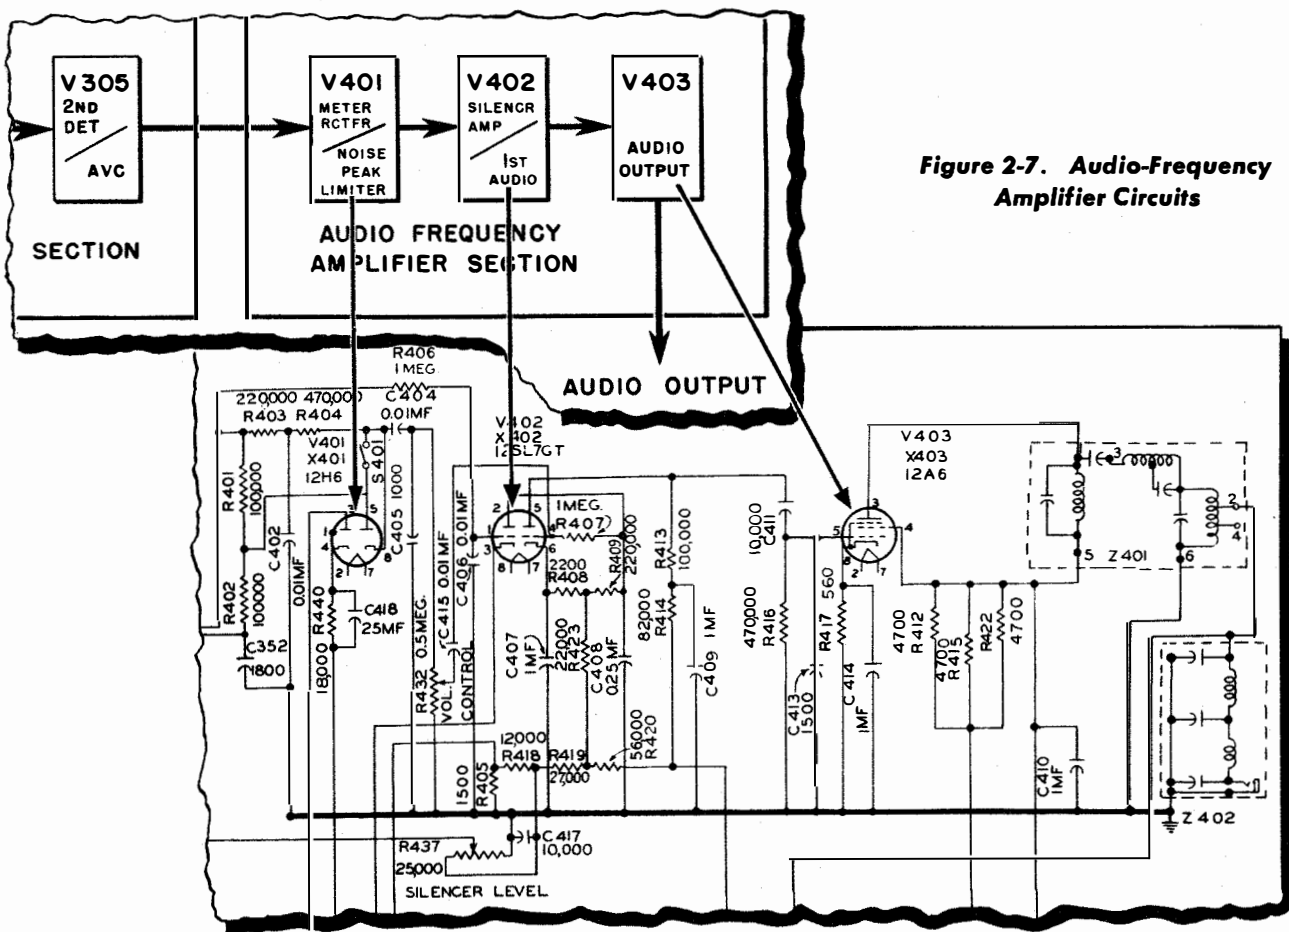

Figure 2-7. Audio-Frequency Amplifier Circuits
(4) AUDIO-FREQUENCY AMPLIFIER.—In addition to providing two stages of audio-frequency amplification, this section includes a noise peak limiter, a meter rectifier, and a silencer circuit. All these functions are performed by three tubes, shown in Figure 2-7. The left-hand diode of V401 is the rectifier for the panel mounted meter, M401.